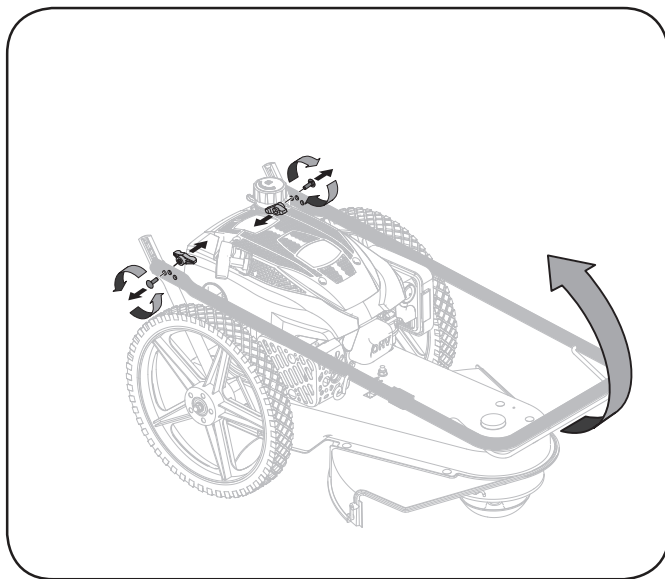

Figure 1
1. Remove knobs and bolts from the lower handle (Figure.1).